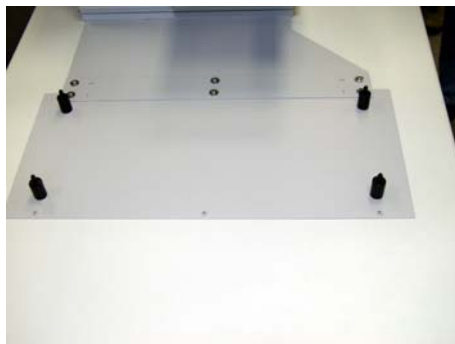

Figure 19 30 mm spacers (left) and mounted on the locating plate
- If you have two 140-mm-high modules below the sampler, you need to place four 30-mm spacers on the locating plate before placing the Well-plate Handler on the spacer pins (see Figure 19).